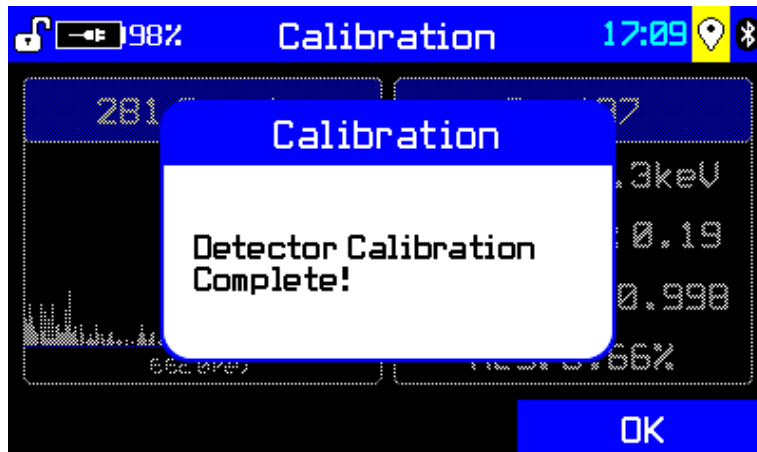
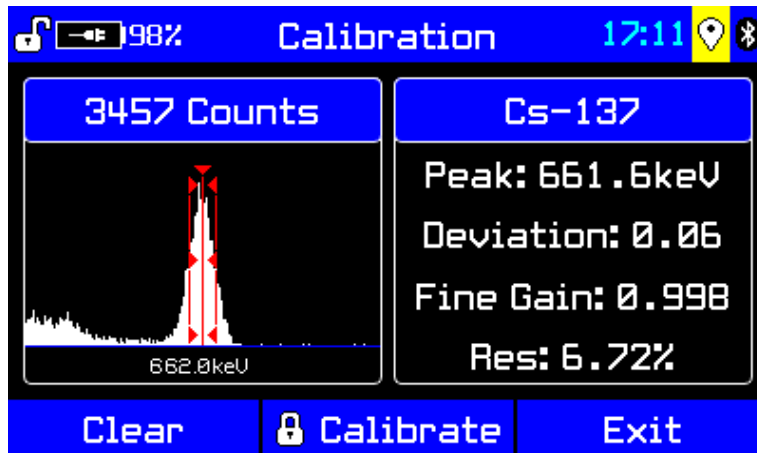

Figure 6-56: Calibration adjustment completed
Figure 6-57: Calibration adjustment successful
6. A message will display to confirm that the calibration adjustment is complete (Figure 6-56). Select **OK** to dismiss the message and view the calibration adjustment (Figure 6-57).